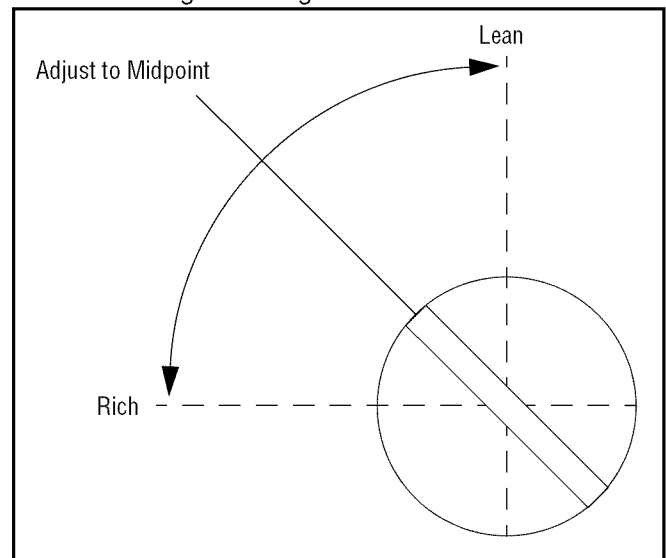

Figure 18
2. **Low Idle Fuel Screw Setting:** Place the throttle into the “idle” or “slow” position. Turn the low idle fuel mixture screw out (counterclockwise) from the preliminary setting until engine speed decreases (rich). Note the position of the screw. Now turn the mixture screw in (clockwise). The engine speed may increase, then it will decrease as the screw is turned in (lean). Note the position of the screw. Set the adjusting screw midway between the rich and lean settings. See Figure 18.